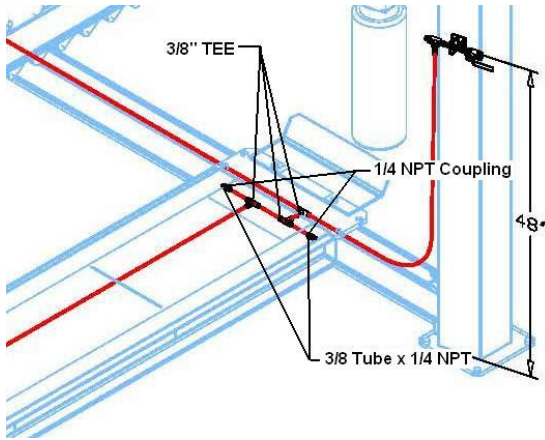

Figure 4
10. Inside the front passenger side runway install (3) tees and (2) 3/8" tube x 1/4" MNPT push lock fittings to the 1/4" NPT couplings welded to the runway, shown in **Fig 4**.